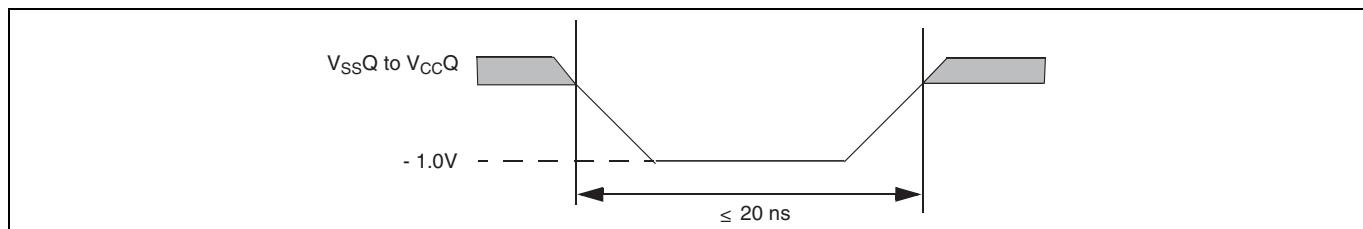
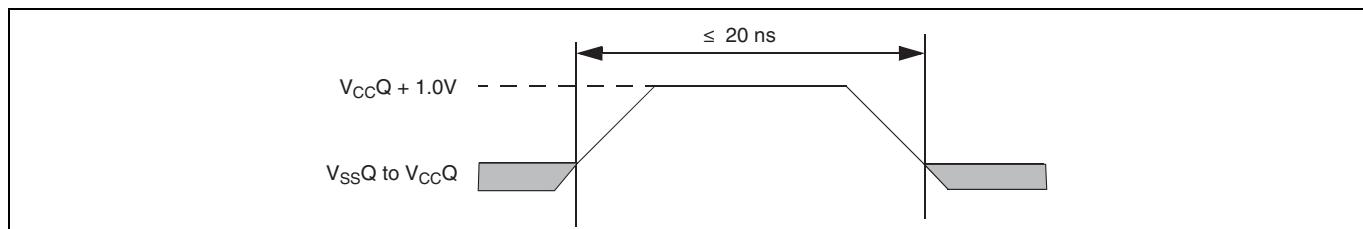

Figure 21 Maximum negative overshoot waveform
Figure 22 Maximum positive overshoot waveform
31. Minimum DC voltage on input or I/O signal is -1.0 V. During voltage transitions, input or I/O signals may undershoot V_{SS} to -1.0V for periods of up to 20 ns. See Figure 21. Maximum DC voltage on input or I/O signals is V_{CC} + 1.0 V. During voltage transitions, input or I/O signals may overshoot to V_{CC} + 1.0 V for periods up to 20 ns. See Figure 22.